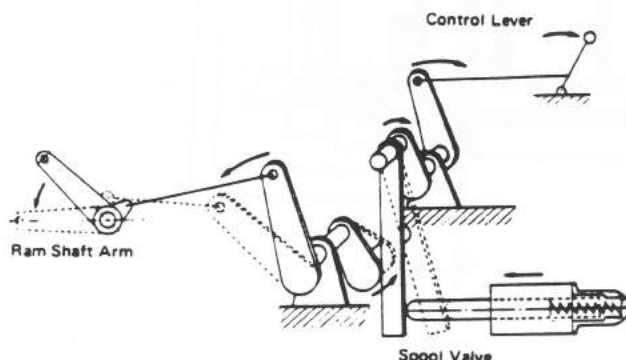

Fig. 8 Operation
Next, when the control lever is moved to the lowering position, the link (F) turns around the shaft (K) as shown in Fig. 8, and the spool valve is pushed toward the link by the return spring. As a result, the spool valve is in the lowering position. The ram shaft arm also lowers, and the shaft (K) is turned to the position indicated by dotted line. This causes the link (F) to move and thereby brings the spool valve in the neutral position.